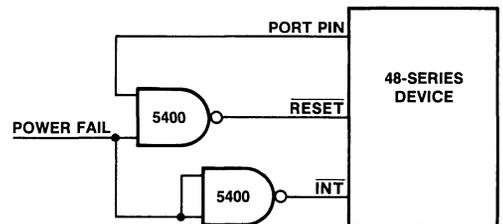

FIGURE 5-5. Driving and Holding  $\overline{\text{RESET}}$  Active
Figure 5-5 illustrates how the  $\overline{\text{RESET}}$  input may be driven low. When power is initially applied to the system, the Power Fail input to the NAND gate is a logic low (0) and the port pin input to the NAND gate is a logic low level. In the event of a power failure, the power fail input to both NAND gates becomes a logic high (1) and the  $\overline{\text{INT}}$  input to the 48-Series device goes active low (0). The  $\overline{\text{INT}}$  input to the device signifies a power failure and the CPU performs a power-fail routine. The power-fail routine saves the machine status and forces the port pin input to the NAND gate to a logic high. With both the power-fail and the port pin inputs at a logic 1 level, the